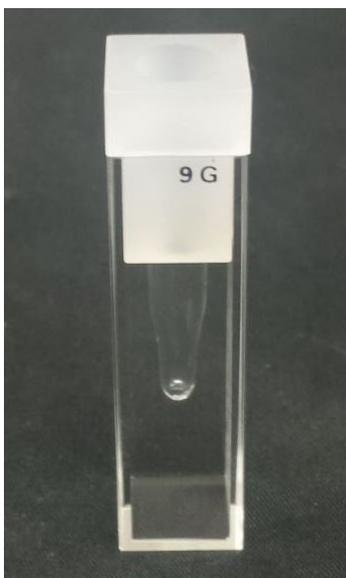

Figure 8. RI matching cell
Another approach to help with smaller size, lower concentration samples is to place a small volume cell into a refractive index (RI) matching fluid (Sigma Aldrich P/N M3516 or Acros Organics P/N 12402) inside a 10 mm cell as shown in Figure 8. This was the cell used to collect the lysozyme data at 0.1 mg/mL documented in Entegris Technical Note - 0.1 mg/mL lysozyme3.